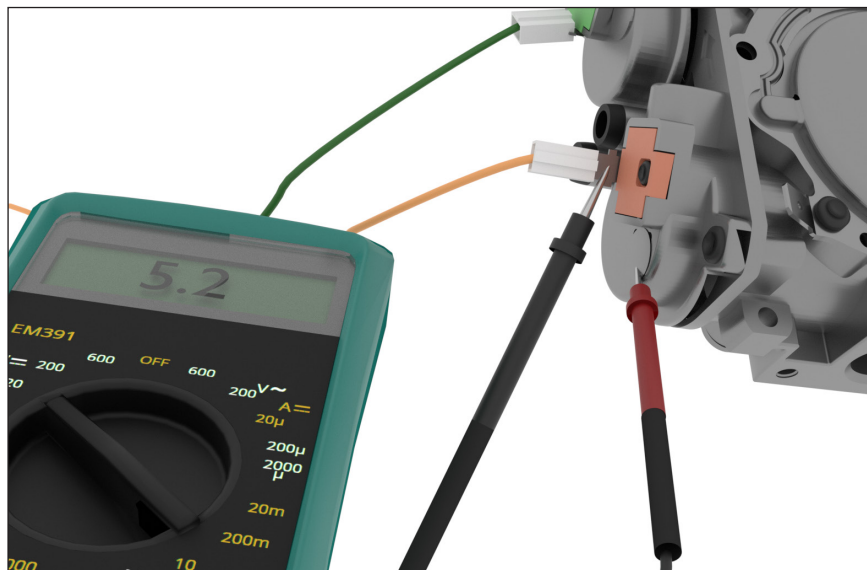

Figure 10: Output Voltage to Orange Solenoid - Probing Points
3. Place one probe on the EV1 terminal, the other to the valve body and turn the unit on (see Figure 10).